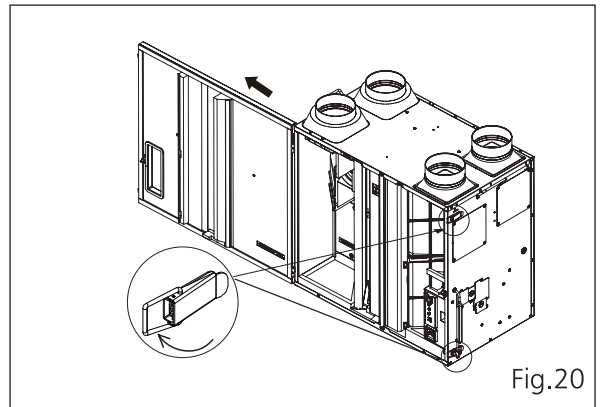

Fig.20
The method of removing and installing OA filter please refer to P.20 (Fig.20) and P.21 (Fig.22~23).
1. Open the frame cover by unlocking the latches. (Fig.20)